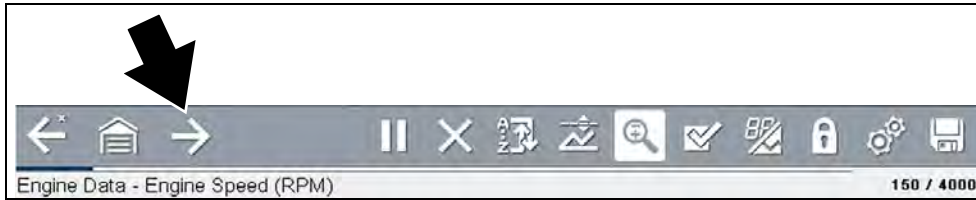

Figure 5-10
- To display the next data list (if applicable), select the **Right Arrow** icon (Figure 5-10).